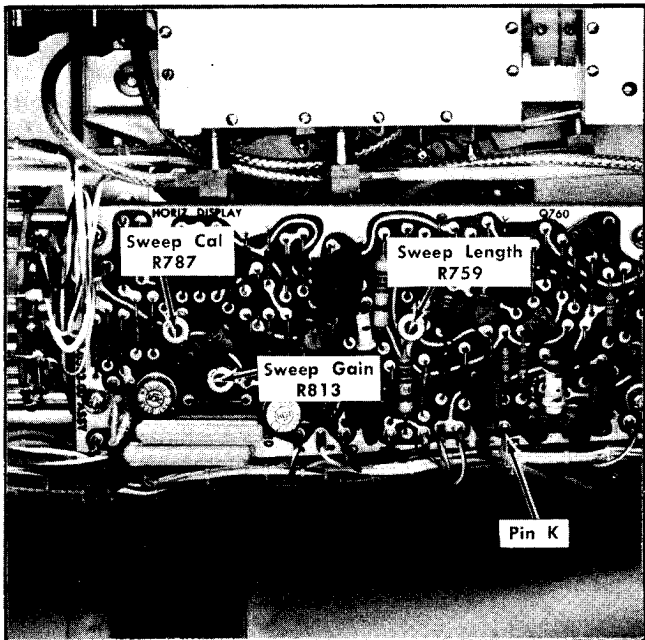

Fig. 6-15. Location of trigger and sweep adjustments.
- c. Adjust the Sweep Length R759 (see Fig. 6-15) for a 7.5 V peak to peak sawtooth waveform on the test oscilloscope
13. Adjust Sweep Calibration and Sweep Gain ①
c. Preset the Sweep Cal R787 to midrange. Adjust the Sweep Gain R813 (see Fig. 6-15) for 10.5 divisions of sweep length. Adjust Sweep Cal R787 for 1 marker per division. Sweep timing must be within $\pm 3\%$ (1.2 minor divisions) over the center 8 graticule divisions.